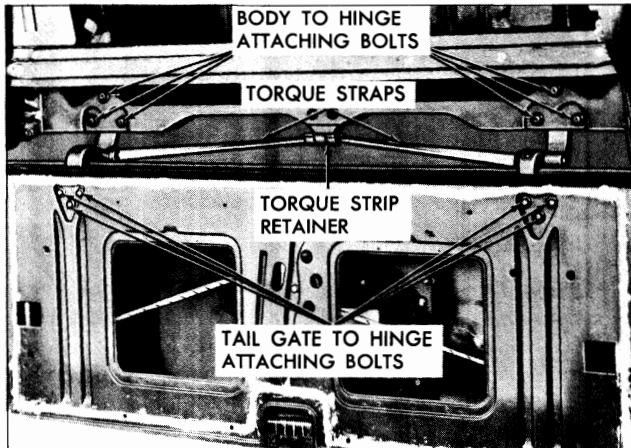

Fig. 5-8 Tail Gate Hinges
8. Remove tail gate to hinge attaching bolts (Fig. 5-8) and remove tail gate from body.
2. Remove torque strap retainer clip from each tail gate hinge and from torque strap center retainer (Fig. 5-8) and remove torque straps from body.